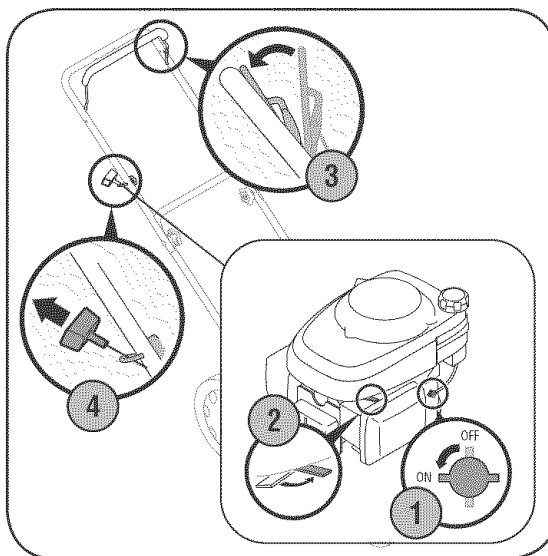

Figure 4-2: Starting the mower.
1. Place the fuel valve lever found on the left side of the engine into the ON (OPEN) position, Figure 4-2.
2. Move the choke lever all the way backward into the choke position, Figure 4-2.
3. Standing behind the mower, squeeze the blade control against upper handle, Figure 4-2. The choke will now begin to slowly return to the off choke position after activating the blade control. Therefore, quickly move onto step four below.
4. Holding these two handles together firmly, grasp recoil starter and pull rope out with a rapid, continuous, full arm stroke, Figure 4-2. Keeping a firm grip on the starter handle, let the rope rewind slowly. Repeat until engine cranks. Let the rope rewind each time slowly.